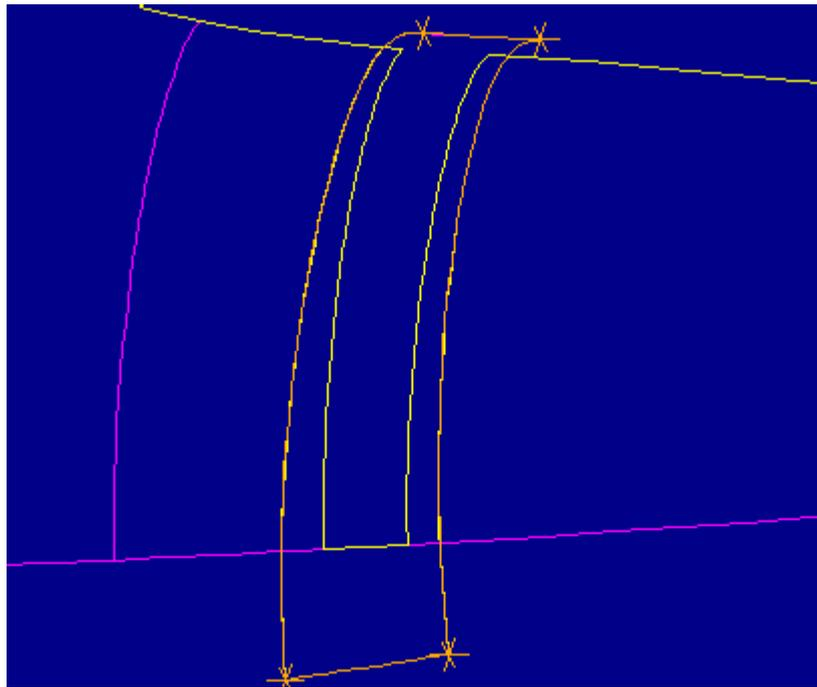

Figure 11
9. In the HEAL GEOMETRY menu select **Manual, Edit Bndry**, and the untrimmed surface. In the SELECT CONT menu select **Sel Contour**. In the CHAIN OPT menu select **Select All** . Figure 11 shows the entire contour of the untrimmed surface ready to be edited.